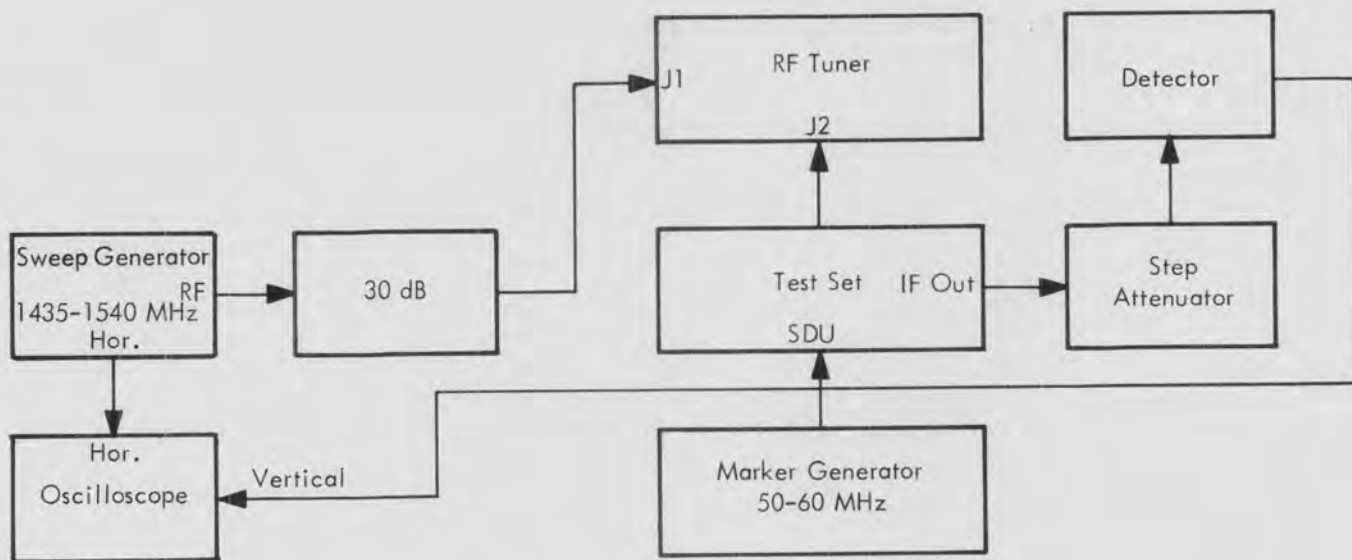

Figure 5-3. Transfer Gain and Bandwidth, Test Equipment Setup
- (1) Set up test equipment as shown in figure 5-3. Set controls as follows: